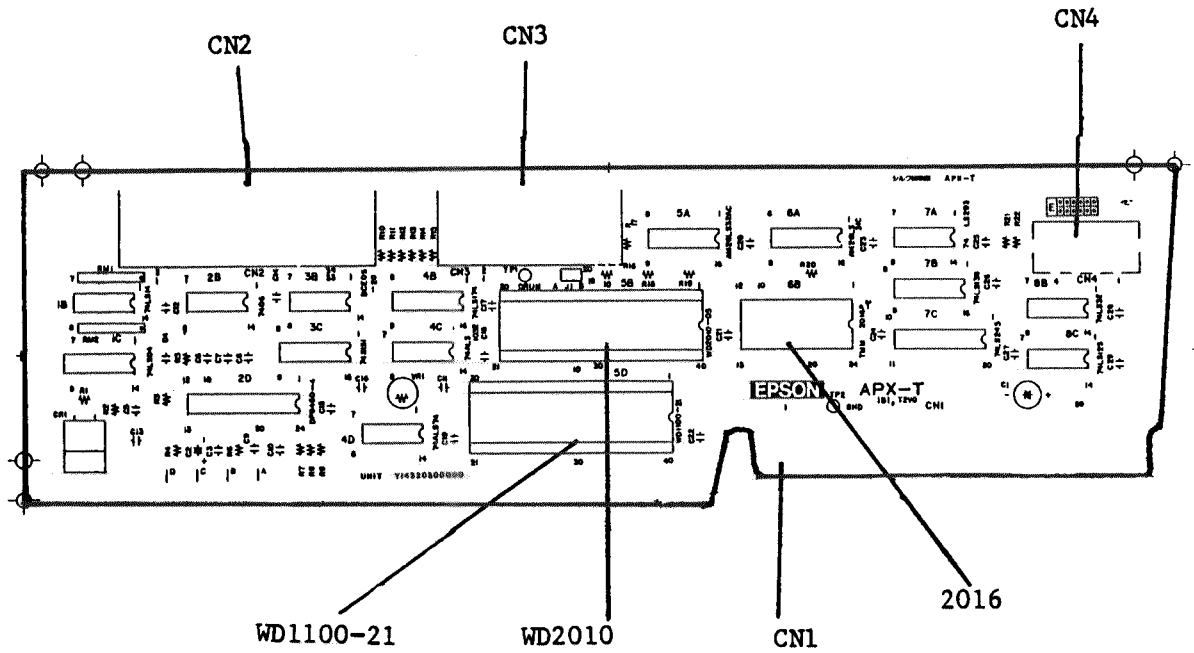

FIGURE 1-3. APX-T BOARD COMPONENTS
The APX-T circuit board (Figure 1-3) is the hard disk drive control circuit board, which is utilized by inserting CN1 in one of three option slots of the QX-16HD. Three cable sets (5AR, 5AS, and 5AT) connect CN2, CN3, and CN4 with the hard disk drive; CN1 on the APX-ISYM(HD) board is not used.